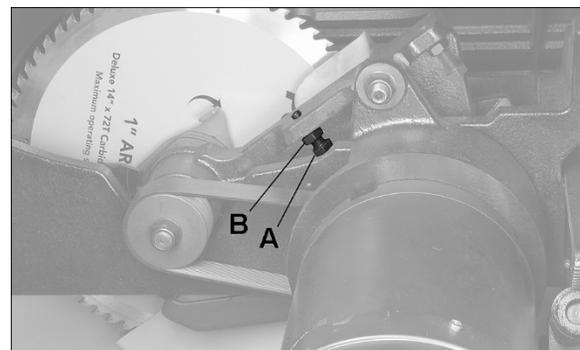

Figure 8-13
- Open side cover and locate blade depth stop screw (A, Figure 8-13) located between arbor pulley and motor.
- Using a 14mm open wrench, loosen hex nut (B, Figure 8-13). This will allow hex cap screw to be turned and saw blade to be adjusted lower.
- The blade depth stop screw (A, Figure 8-13) should be resting against the trunnion. Verify this; then tighten hex nut (B, Figure 8-13).